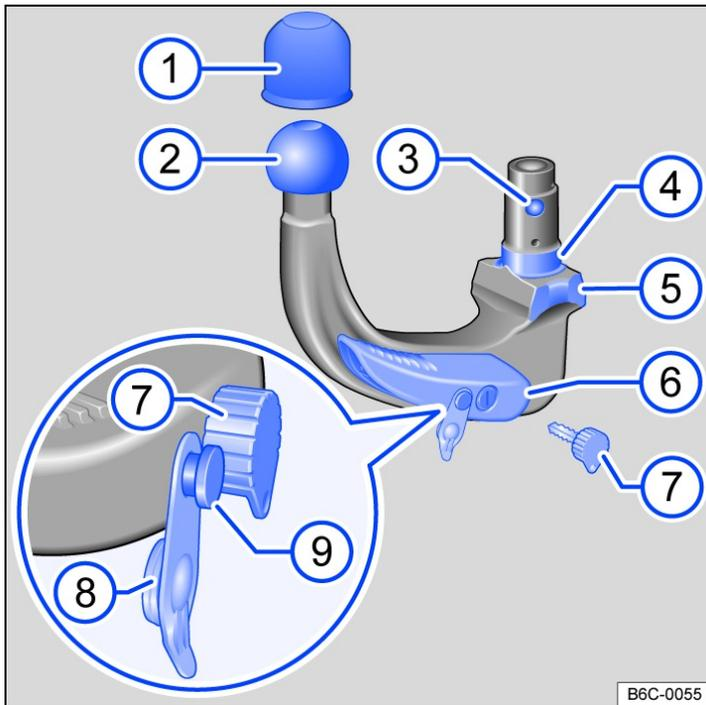

Fig. 1 Overview: removable ball head.
Key to Fig. 1
- Check to ensure that the mounting, locking lever → Fig. 1 ⑥, shank ④ and the retaining balls ③ of the ball head are all clean and not damaged → ⚠. Clean if necessary.